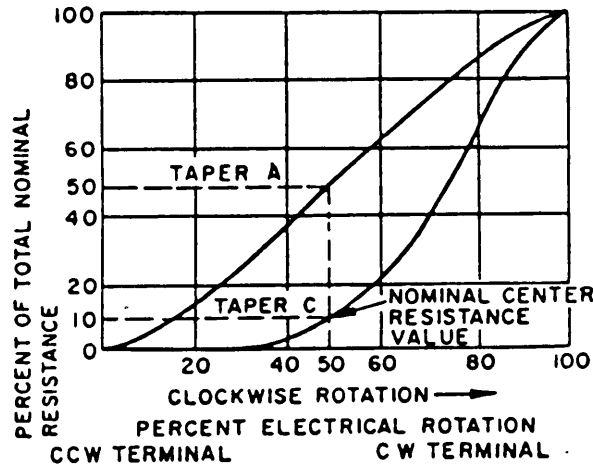

FIGURE 201-5. Clockwise taper.
3.4 Linear and nonlinear tapers. Taper A is a linear resistance taper, which is one having a constant change of resistance with angular rotation, while taper C is a nonlinear resistance taper, which has a variation or lack of constancy in the change of resistance with angular rotation. (See figure 201-5.)